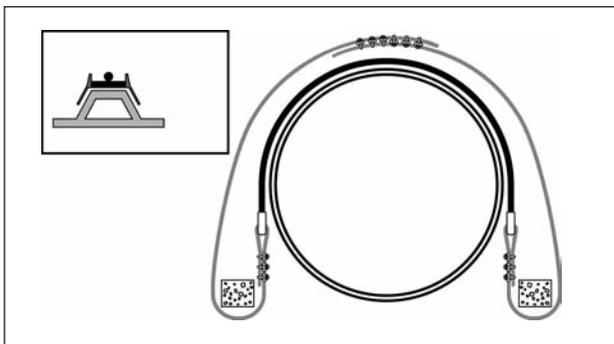
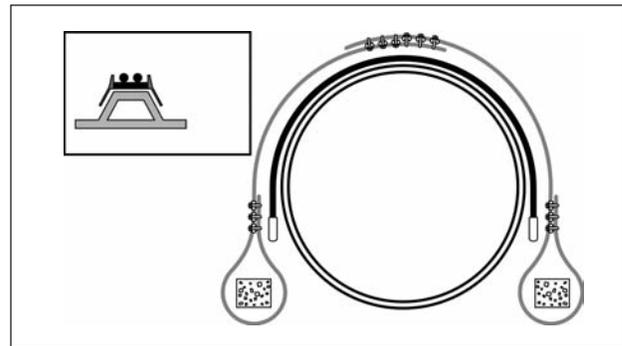

FIGURE 6-6
FIGURE 6-7
6.8.1.2. The H-shaped positioning clips around the strap are designed to accommodate the wire rope on top of the strap as shown in FIGURE 6-6 and FIGURE 6-7.
6.8.1.3. The following method is shown in FIGURE 6-6:
6.8.1.4. The following method is shown in FIGURE 6-7: